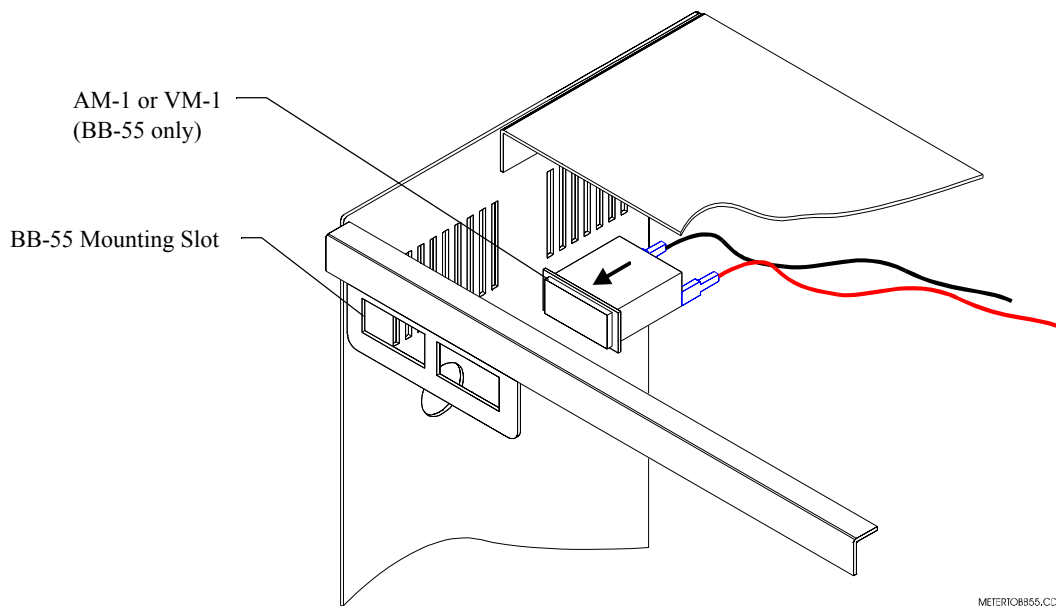

Figure 14 Mounting an AM-1 or VM-1 to a BB-55 Battery Box
You can also order and install a ammeter (AM-1) or voltmeter (VM-1) for use with the charger. If mounting an AM-1 or a VM-1, mount the meter to a BB-55 as shown in Figure 14. Table 6 contains descriptions and part numbers for these optional meters:
3. Mount the AM-1 into a mounting slot on the front of the BB-55 (Figure 14):